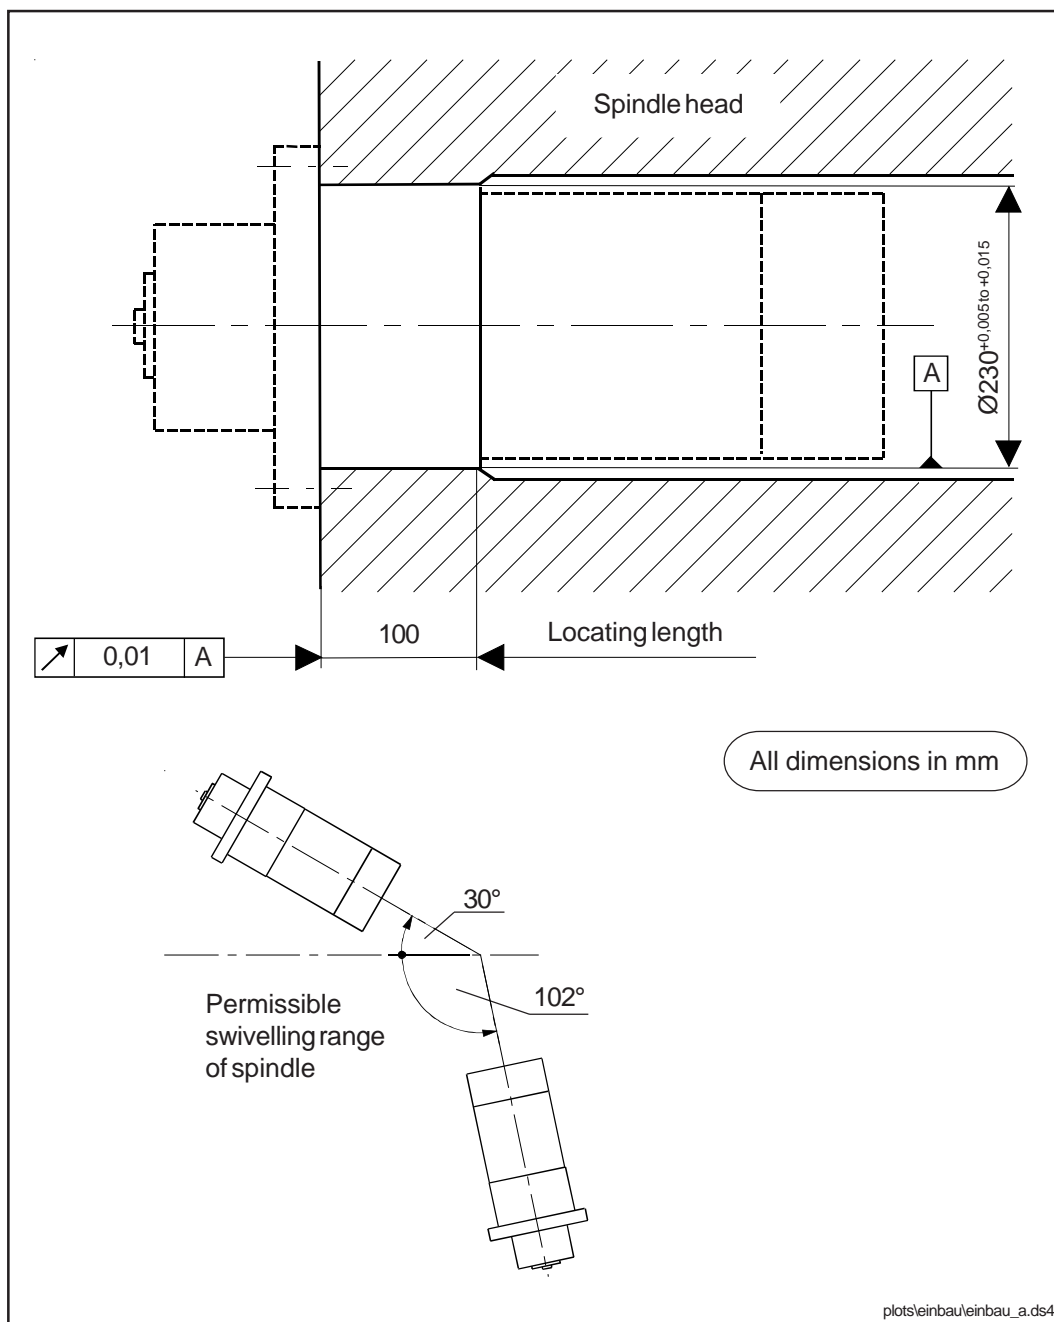

Fig. 4.3.1
Spindle mounting bore: Cylindrical mounting bore matching the clamping diameter of the spindle housing $\varnothing 230_{h5}$ (see Fig. 4.3.1).
Locating length: approx. 100 mm from spindle flange (see Fig. 4.3.1)
Mounting position: horizontal, swivelling range $+30^\circ$, -102° (see Fig. 4.3.1)
- Please attend to the tolerance of position shown in Fig. 4.3.1 between flange surface on the spindle head and the mounting bore.
- Install the spindle in such a way that the connections T (vent/oil return) and L(D) (leakage rotary union) as well as one of the two leakage connections L(S) point down in case of horizontal spindle mounting position.